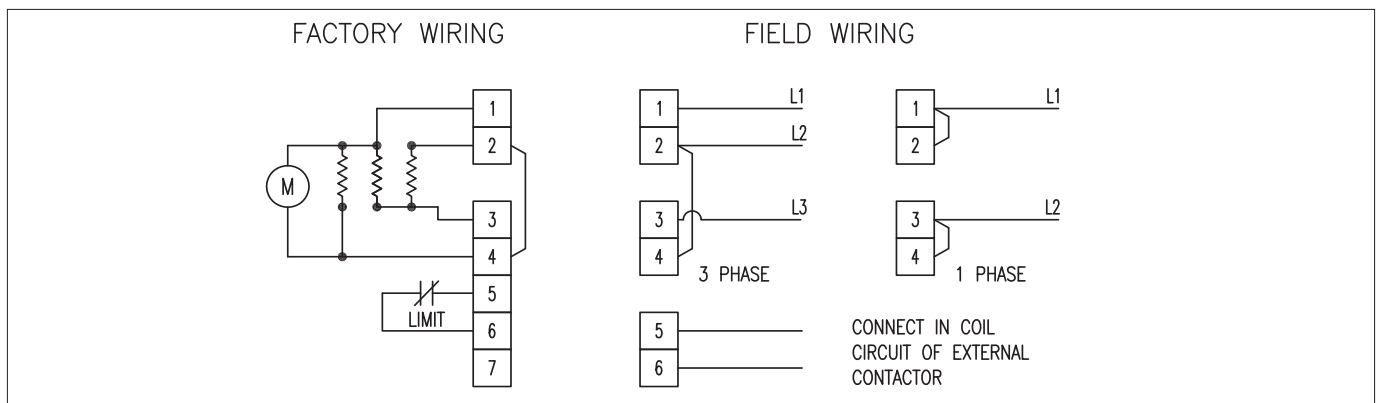

Figure 3A – GE Series 2–10 kW wiring schematic with hi-limit option. 208 V and 240 V models.
If the wiring schematics of Figures 3A–3G, page 5–7, do not match your configuration, check the inside access panel of the unit for specific wiring schematic. Alternatively, all wiring schematics are available online at: [www.thermon.com](http://www.thermon.com).
If the wiring schematics of Figures 3A–3G, page 5–7, do not match your configuration, check the inside access panel of the unit for specific wiring schematic.
1. To operate heater, ensure power supply is properly connected as specified in the wiring schematic (refer to Figures 3A–3G, page 5–7).